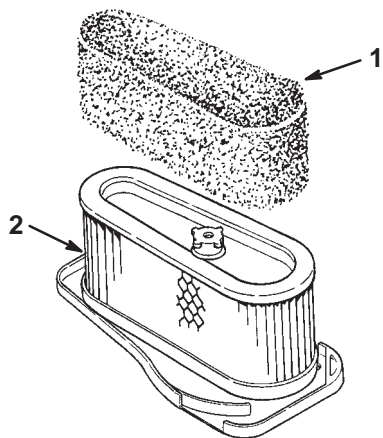

Figure 23
4. Carefully slide the foam element off of the paper element (Fig. 23).
1. Carefully slide the foam element onto the paper air cleaner element (Fig. 23).